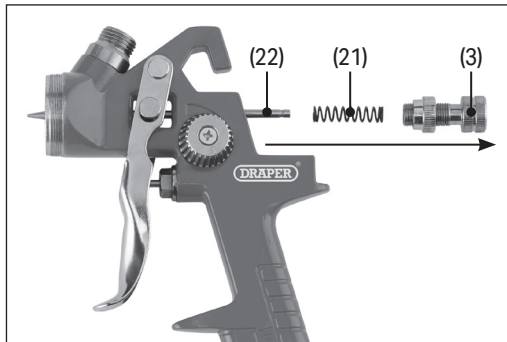

Fig. 17
- a. Rotate the fluid control dial (3) anticlockwise until it comes away from the spray gun body (Fig. 17).
- b. Remove the spring (21) and the fluid needle (22) from the chamber via the back of the spray gun.